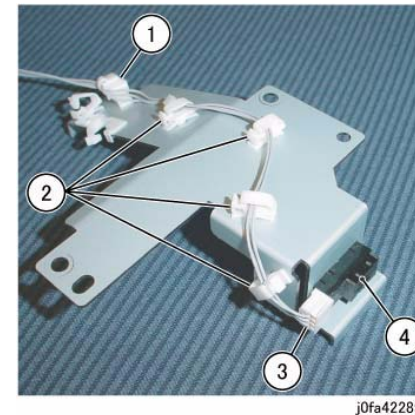

Figure 5 Removing the Stack Height Sensor (j0fa42289)
10. Remove the Stack Height Sensor. (Figure 5)